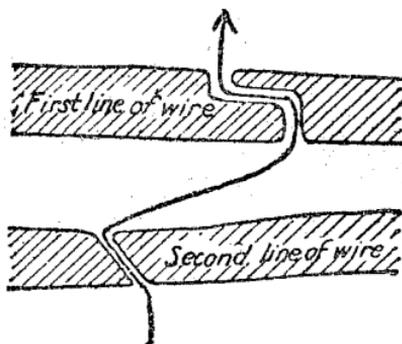

FIG. 223.
6. Arrange for *passageways* to the front for the use of patrols, sentinels, etc. They must be concealed or at least not easily discoverable and there must be material close at hand suitable for quickly obstructing them in case of the necessity arising for doing so. (Fig. 223.)